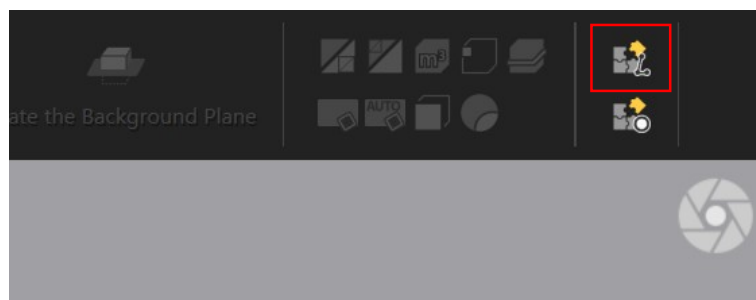

Figure 9-1 Model Stitching (Features) Button
2. Click the Model Stitching (Features) Button, which is shown in Figure 9-1.